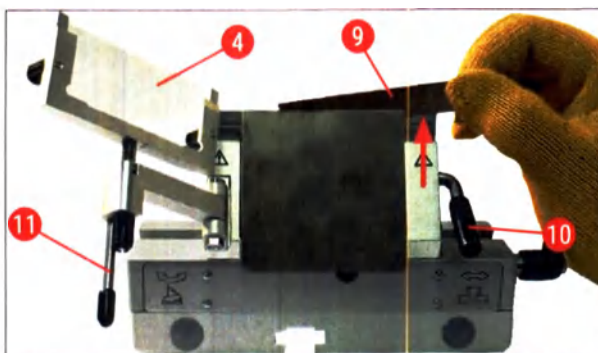

Fig. 30
2. Open the clamping lever (→ "Fig. 30-10") by turning it counterclockwise (→ "Fig. 30").
3. Carefully insert the blade (→ "Fig. 30-9") from above or from the side between the pressure plate and the blade rest. Make sure that the blade is inserted so that it is centered and lies evenly along the ledge (see red arrow in (→ "Fig. 30")).